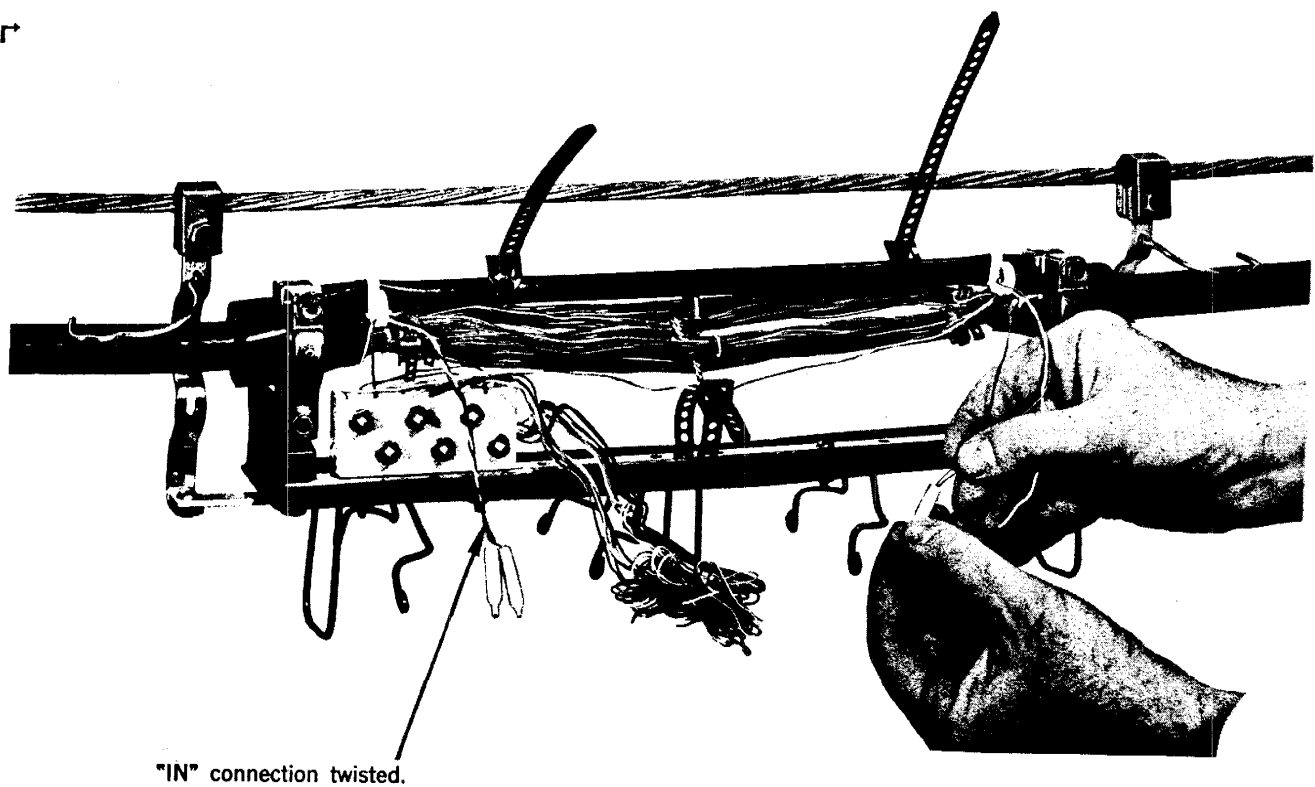

Fig. 7 — Terminated Pairs Twisted Together
5.04 The terminated pairs are then twisted together. See Fig. 7.